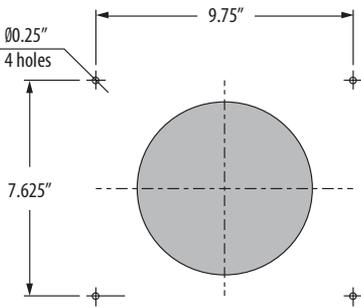

Figure 9
8. Mark the fastening holes for the exterior-mounted hood and drill holes for the wall anchors (Figure 9). For convenience of marking, use the back part of the exterior-mounted hood.